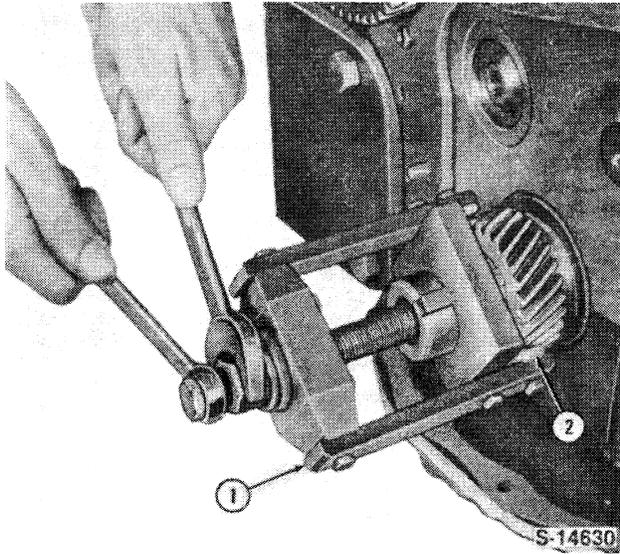

Figure 23
2. Locate the key then use Tool No. 2134 and 1237 to install the crankshaft gear, Figure 23.